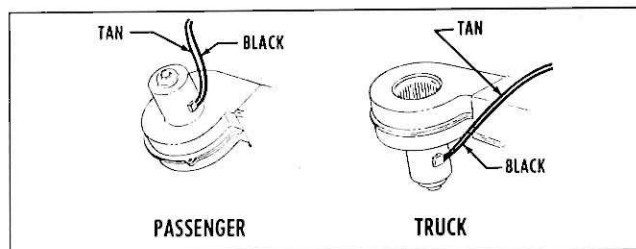

Fig. 11—Cool-Pack Blower Harness Installed
2. When installing Passenger Car blower wiring harness, check to make sure black wire to blower motor is nearer blower case than the tan wire (Fig. 11). This is a correction to Page 6 of the Passenger Car Cool-Pack Instruction Sheets.
Existing Cool-Pack Instruction Sheets for Trucks correctly show the harness tan lead located nearer the blower case, as shown in Figure 11.